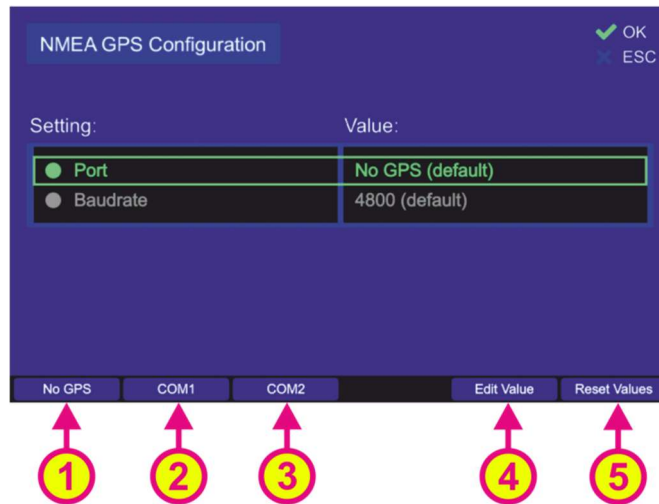

Figure 159. NMEA GPS configuration settings
Following sub-menu will appear (s. Figure 159).
- Pressing the hotkey “Reset Values” (s. Figure 159, position 5) will set all menu items to default values.
- To change the baud rate, press the hotkey “Edit Value” while the menu item “Baudrate” is marked (s. Figure 159). The corresponding sub-dialog will be opened (s. Figure 161).